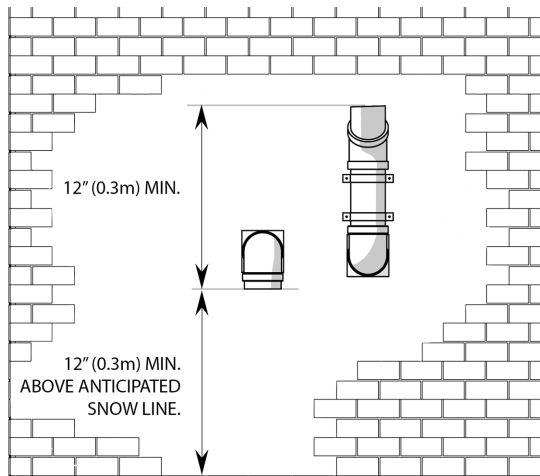
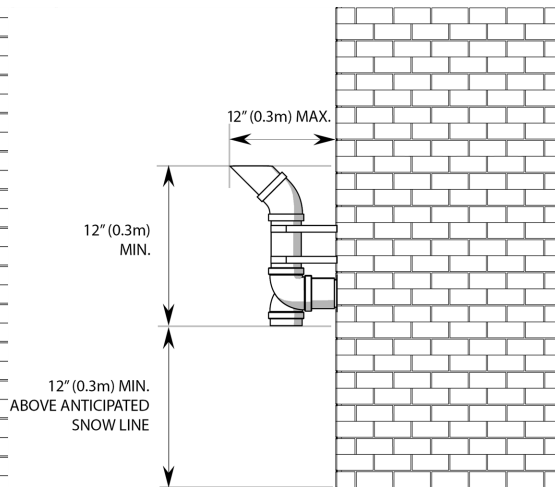
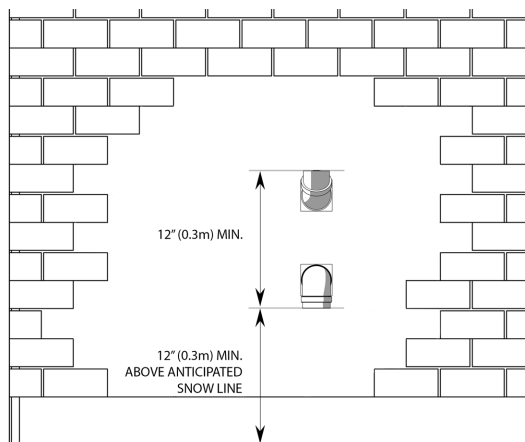
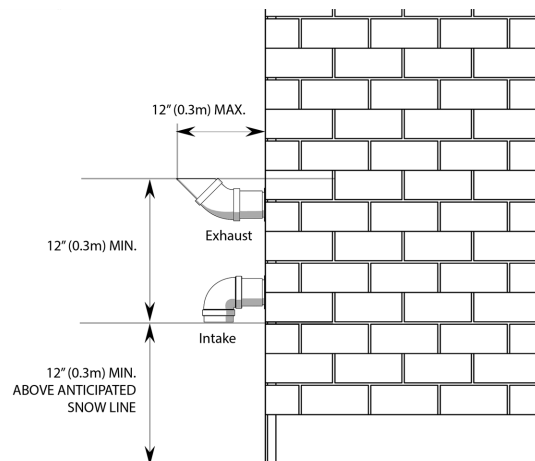

Figure 20 Vent termination clearance--horizontal perforations
Figure 21 Vent termination clearances--horizontal perforations, side view
Figure 22 Vent termination clearance--vertical alignment
Figure 23 Vent termination clearances--vertical alignment, side view
- » (Optionally) Raise the elevation of exhaust termination "periscope style" after passing through the wall, to gain the required clearance as shown in Figure 20 and Figure 21.
- » Use a 45° elbow on the exhaust termination to launch the plume up and off the sidewall (for protection of wall). A short piece of venting cut at 45° gives a horizontal termination protected from wind loads (see Figure 21, and Figure 23).
Important!: Maintain at least the minimum separation of exhaust vent termination from boiler intake air as illustrated in Figure 20 , Figure 21 , Figure 22 and Figure 23 .